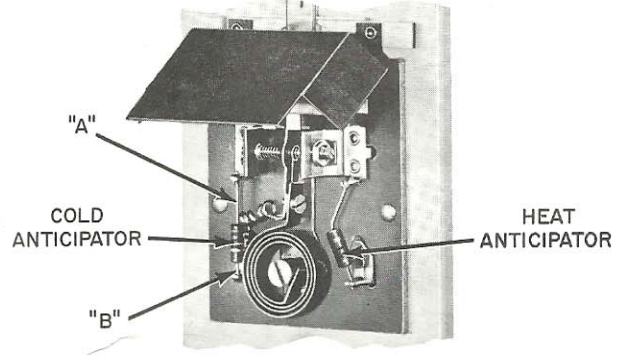

Fig. 4 — Remove the cold anticipator resistor for 208/240 V. service by clipping the leads at point "A" and "B."
6. On 208/240 V. A.C. installations, remove the cooling anticipator to prevent over-anticipation. Carefully clip left-hand resistor leads with diagonal cutters. See Fig. 4.